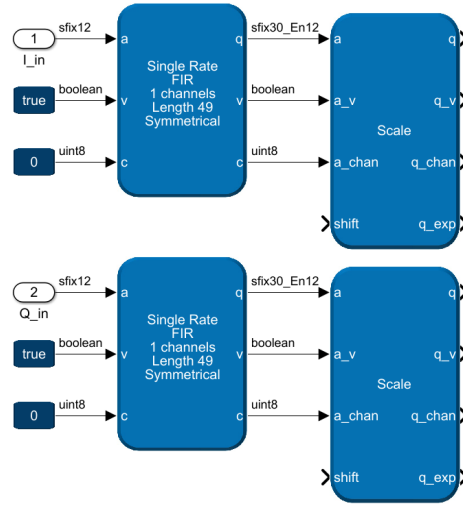

Figure 4: Connection of the pulse shaping filters in the receiver.
- Add two *Scale* blocks after the filter and set their **Output data type** to **fixdt(true, wordLength)**. Connect a *Scope* to the output of the *Scale* connected to the I input and adjust the **Number of bits to shift left** to utilize as much as possible of the signal resolution without clipping the waveform. Use the same settings for the other *Scale* block. The receiver part should now look similar to Fig. 4.